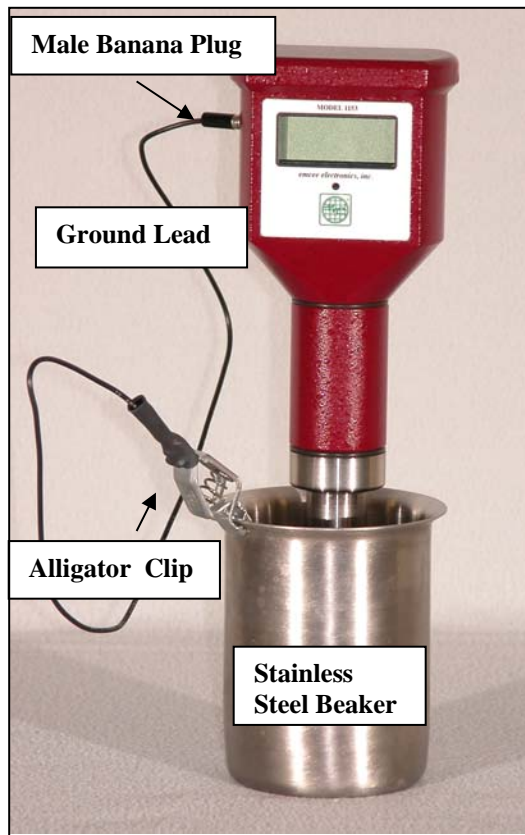
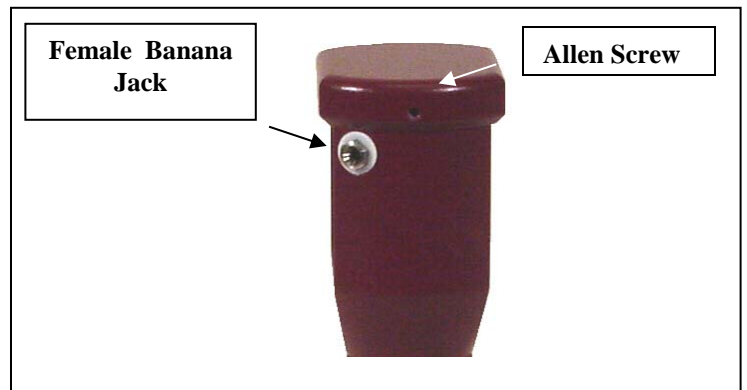

Figure 3 – Test Set Up
Figure 4 – Female Banana Jack and Allen Screw
5.5 The probe Inserted in the sample that is tested with the ground lead attached to the Meter to the sample container is shown in Fig. 3. The location of the female banana plug on the Meter the Allen screw is also shown in Fig. 4.